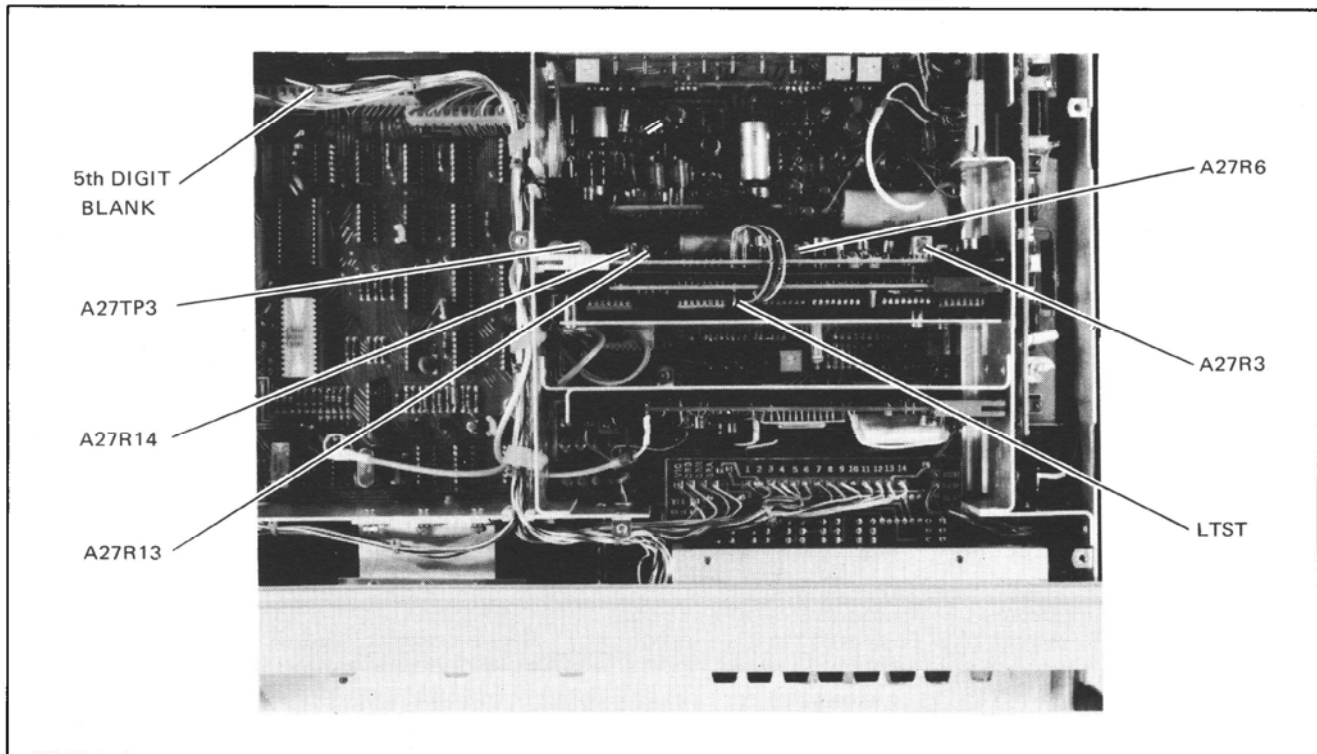

Figure 5-10. Location of Sample/Hold Adjustments.
5-70. Adjustment of the dc circuits, Paragraphs 5-53 through 5-60, must be completed before beginning the Sample/Hold adjustments. The following adjustments must be performed in the order given. Figure 5-10 shows the location of the Sample/Hold adjustments. They are also shown on the top guard cover.
- b. Locate the white/black wire just to the rear of the display cable connector. This wire is labeled "5th Digit Blank" in Figure 5-10. Disconnect this wire from Test Point L and connect to Test Point M. This restores the display to five full digits for Sample/Hold measurements, providing greater resolution in order to make the following adjustments more accurately.